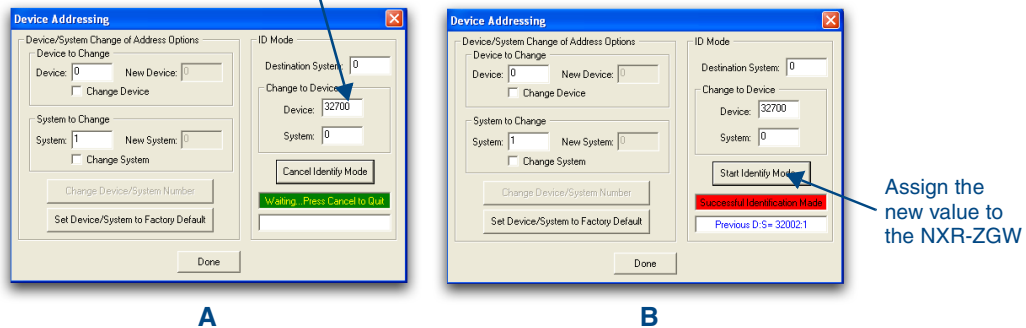

FIG. 18 Device Addressing dialog (using the ID mode to set the NXR-ZGW device value)
2. Access the Device Addressing dialog (FIG. 18) by selecting **Diagnostics > Device Addressing** from the Main menu.
3. Locate the *Device* field (A in FIG. 18) and enter the new value for the NXR-ZGW. ***This value must fall within a range of 0 - 32767.***